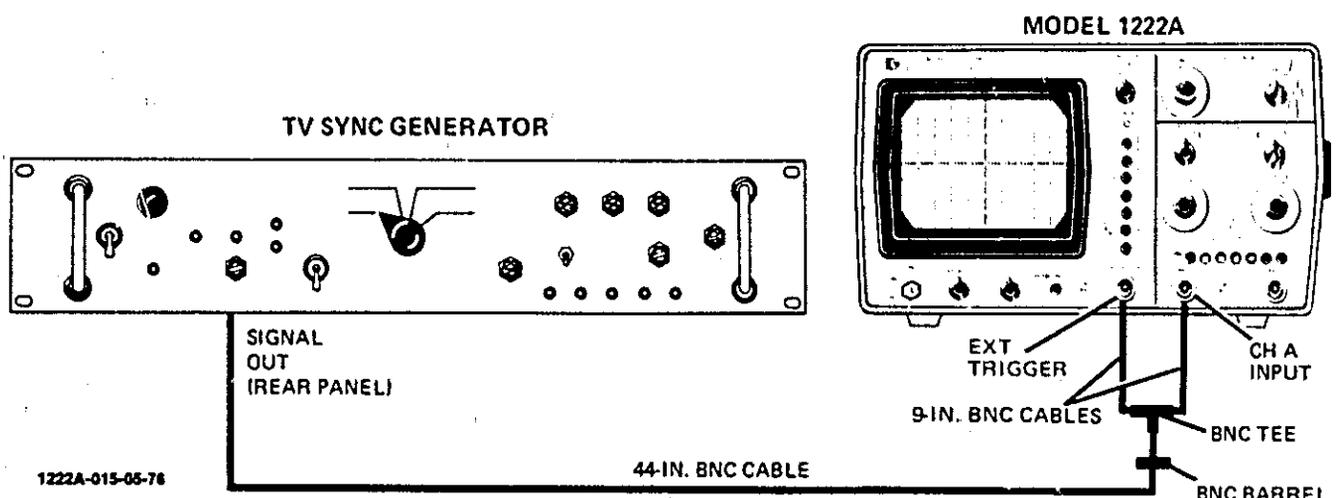

Figure 5-7. TV Sync Test Setup
- a. Connect equipment as shown in figure 5-7.